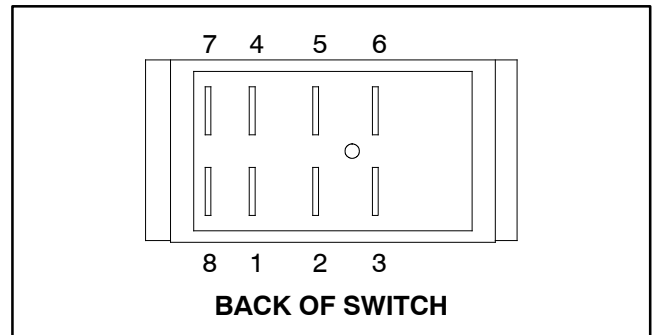

Figure 16
3. The switch terminals are shown in Figure 16. The circuit logic of the sonic boom switch is shown in the chart to the right. With the use of a multimeter (ohms setting), the switch functions may be tested to determine whether continuity exists between the various terminals for each switch position. Verify continuity between switch terminals. Replace switch if testing identifies a faulty switch.